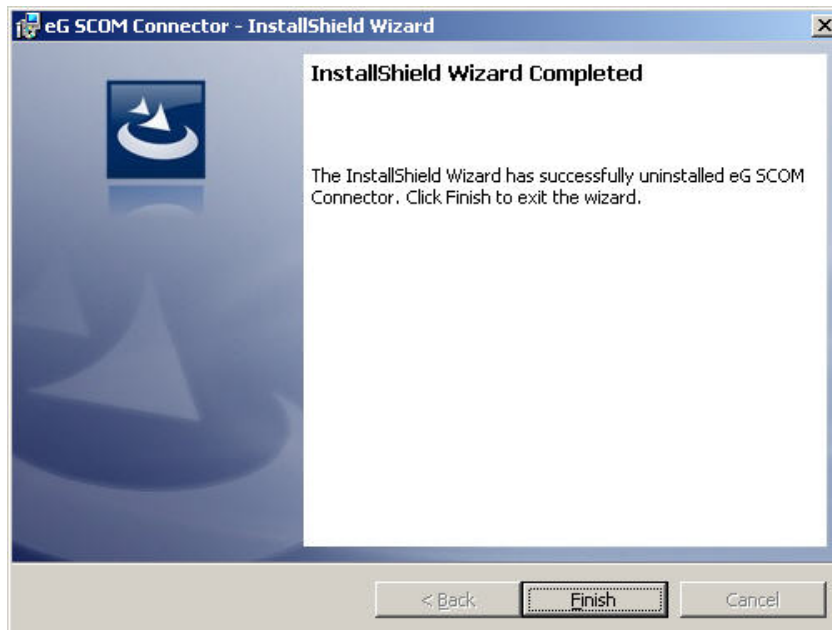

Figure 4.50: End of uninstallation
7. Once uninstallation completes, Figure 4.50 will appear. Click **Finish** here to exit the wizard.